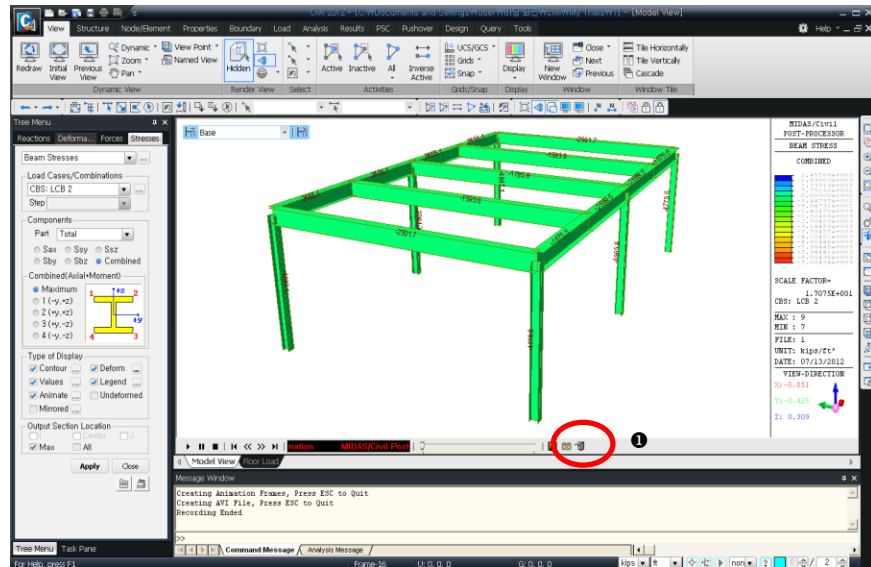

Figure 1.37 Animation Window
7. Click  **Record** as shown in Fig.1.37–.
Once the above procedure is completed, wait a while. The animation reflecting the effects of combined stresses and deformed shapes appears on the screen as shown in Fig.1.37.
1. Click  **Close** shown in Fig.1.37–❶.
4. Click the **Element Number** field once, then select element **11** in the **Model View** window (Fig.1.37).